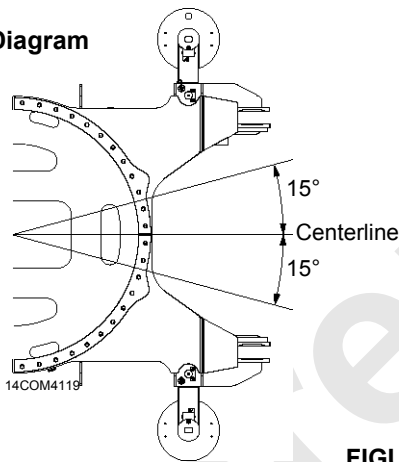

FIGURE 4-13
- Do not swing 15° either side of center (Figure 4-13)